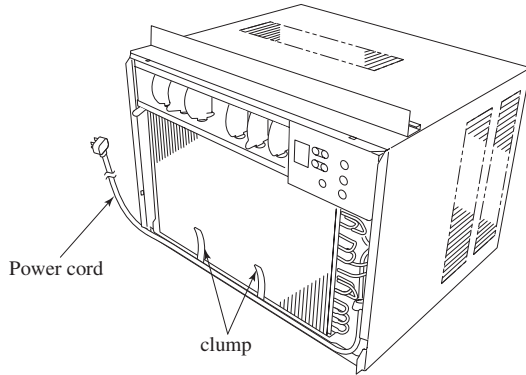

FIGURE1
- ① Remove the front panel (refer to the how to remove the front panel).
- ② Route the power cord as shown FIGURE1.